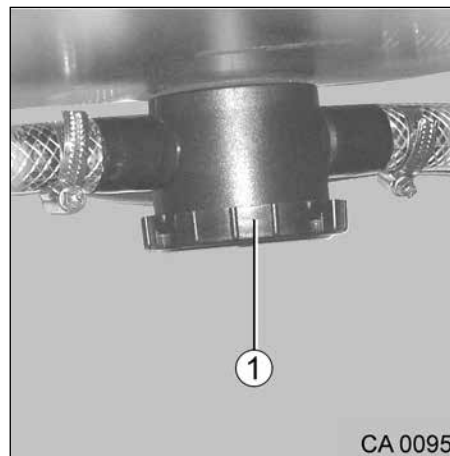

Fig. 64 Odour trap
In order to prevent possible unpleasant odours from the waste water system, the vehicle is equipped with odour traps (Fig. 64, Pos. 1).
1. Unscrew the cap of the odour trap (Fig. 64, Pos. 1) anticlockwise to remove.
2. Clean the odour trap and the inside of the cover (Fig. 64, Pos. 1).
3. Screw the cover (Fig. 64, Pos. 1) back onto the odour trap clockwise.